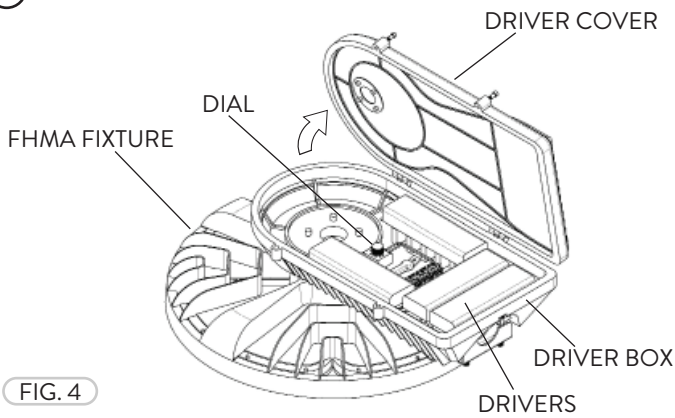

FIG. 4
- 2 Lift the Driver Cover for access inside the Driver Box (Fig. 4).